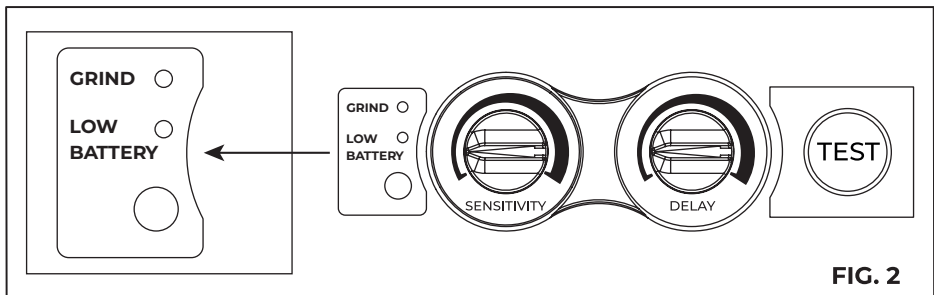

FIG. 2
This filter cartridge is powered by a solar cell and one CR2450 lithium battery. When the indicator on the lens turns red (see fig.2), it is a warning that the battery needs to be replaced.
Press and hold the test button to check the shade setting before you start welding (see fig.2). Once you release the button, the viewing window will automatically return to the light state (Shade 3.5).
- In this situation, the indicator will turn green and blink every 3 seconds (see fig. 2). Before resuming welding, ensure that the shading function is reactivated.